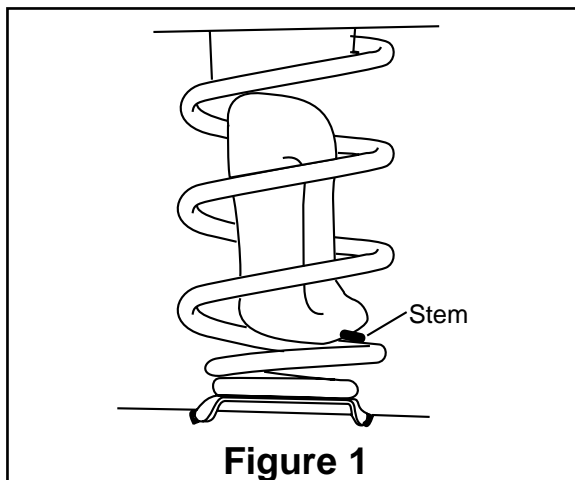

Figure 1
5. Insert flattened air cylinder into coil spring through lowest opening with stem at the bottom (Figure 1).
If the vehicle's headlights are shining into the trees or the vehicle is leaning to one side, then it is not level (fig. 1). Raise the air pressure to correct either of these problems and level the vehicle.